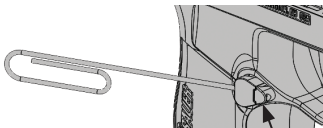

Figure 2
3. Press the end of a small round pin such as a paper clip, into the hole of the magazine catch (Figure 2). This will release the magazine catch stop (Figure 2, Item 1).
4. Work the magazine catch stop (Figure 2, Item 1) out of the magazine catch with the pin using a back and forth motion.